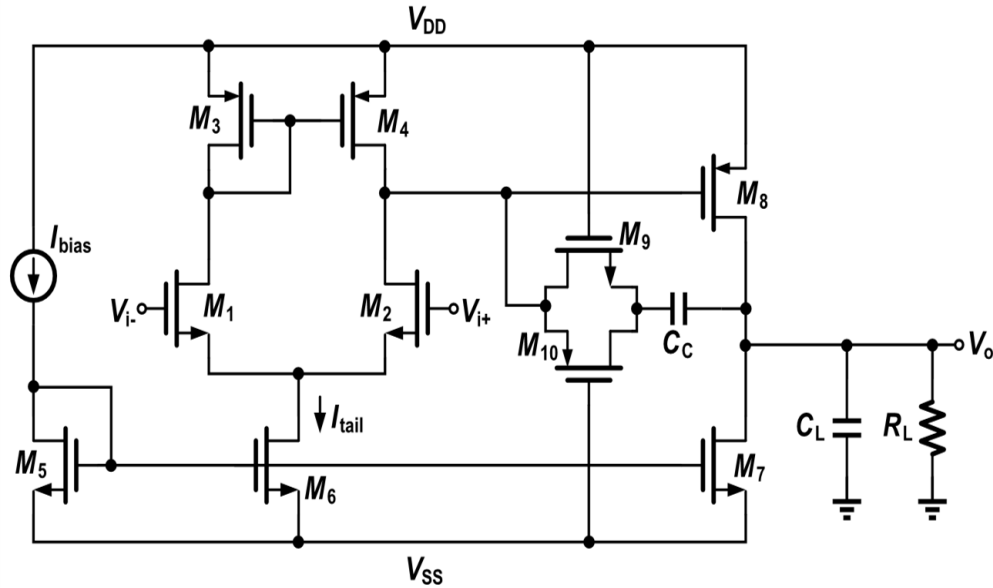

Figure 3-1: Two-stage amplifier with Miller compensation and RHP zero cancellation
1. There are various techniques to remove or move the RHP zero that comes with the Miller compensated classical two-stage opamp. One of the techniques is to place a resistor in series with C_c . This resistor can be implemented with two transistors operating in triode region, as shown in Fig. 3-1 OR A SINGLE PASSIVE RESISTOR. Find the proper transistor dimensions and check the bias conditions.
a) Design the circuit shown in Fig 3-1 to obtain the specifications given (Table 3-1). Identify the dominant noise sources (**leave the topic a) pending, go to item b)**) and find the expression for the input referred thermal noise density. Show the hand-calculations for the input referred thermal noise density and report the estimated value. Obtain the profile of the flicker noise from simulations and identify the corner frequency between thermal and flicker noise density.